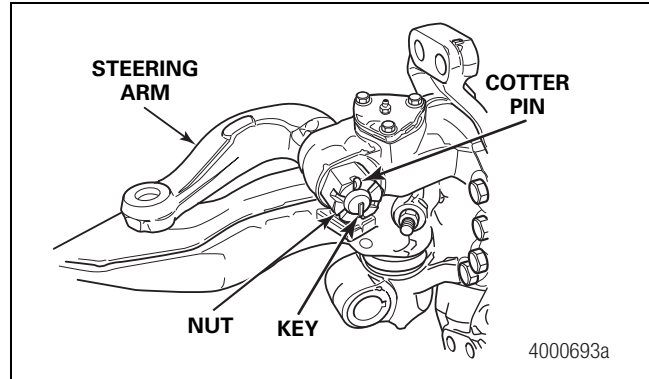

Figure 12
2. Remove the cotter pin and nut that fasten the steering arm to the knuckle. Figure 12.